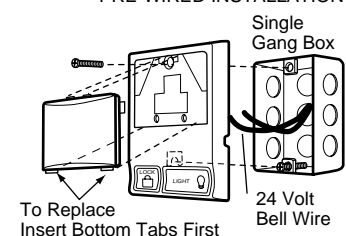

Figure 3 MULTI-FUNCTION DOOR CONTROL (BACK)
1. Strip 7/16" of insulation from one end of bell wire and connect to the two screw terminals on back of door control by color: white wire to WHT and white/red wire to the RED (Figure 3).